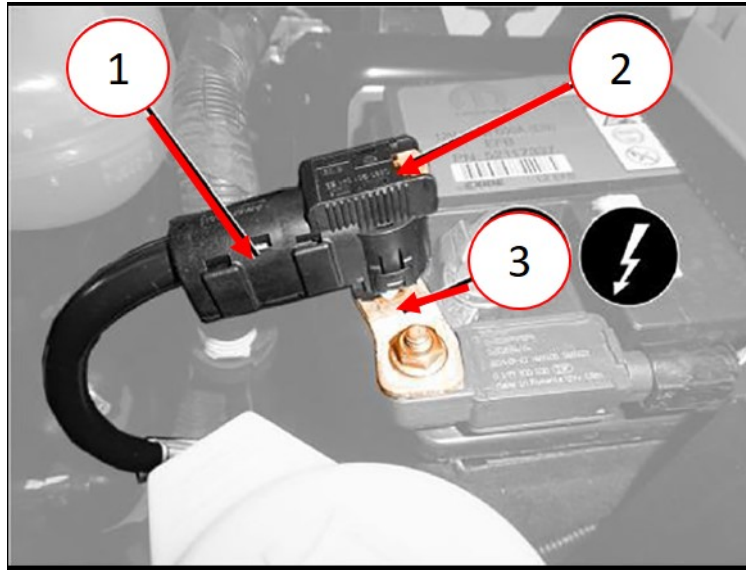

Fig. 1
- Press the retainer, disconnect and isolate the 12-volt negative battery cable from the battery negative terminal (Fig. 1) .